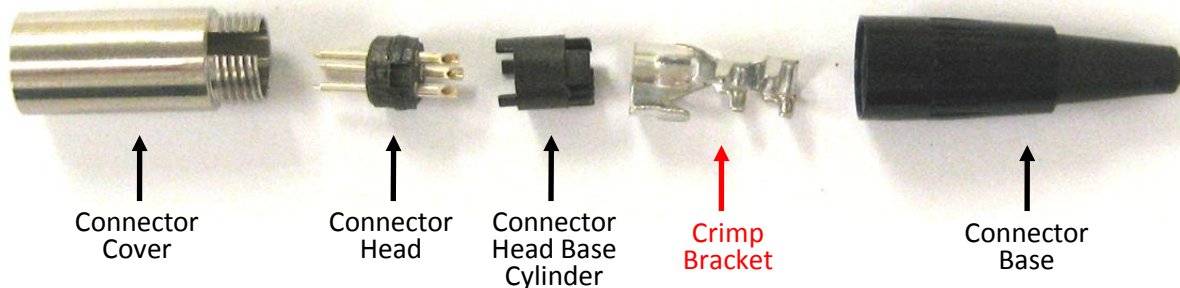

Fig. 4.1 Discard the crimp bracket.
- 4.1 Figure 4.1 below shows an exploded view of the mini-XLR connector. The crimp bracket is highlighted in red. This piece is made of highly ferromagnetic stainless steel and must be discarded.